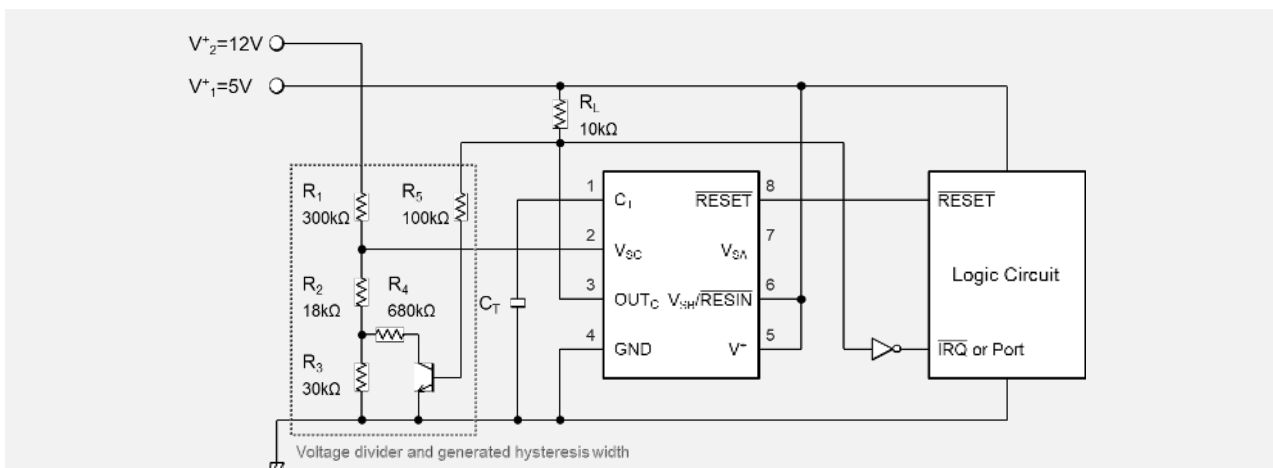

Fig. 6 5V, 12V power supply monitor ( $V^+_1 = 5V$ ,  $V^+_2 = 12V$ ,  $\overline{\text{RESET}}$  output is only  $V^+_1$  detection result)
- $V^+_2$  detection voltage (falling) and hysteresis width at rising are calculated as following formula. In case of resistor value in Fig.6, the detection voltage (falling) is about 9.0 V and the hysteresis width at rising is about 0.2 V